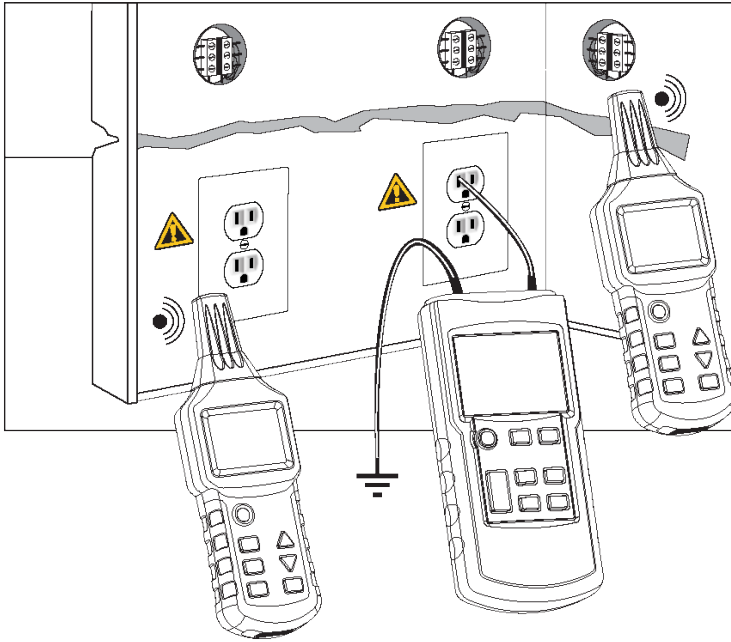

Fig. 10
- Connect the transmitter to the phase and to the ground wire as shown in Fig. 10.